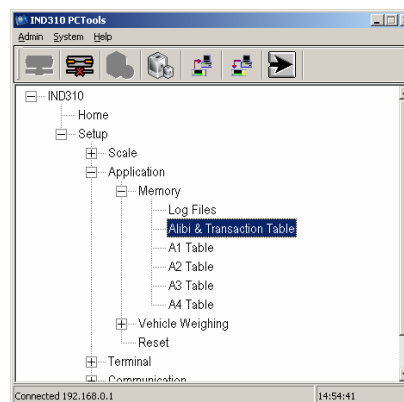

Figure B-19: Alibi & Transaction Table Selected in the Menu Tree
1. Follow the setup menu tree to Alibi & Transaction Table (Figure B-19).